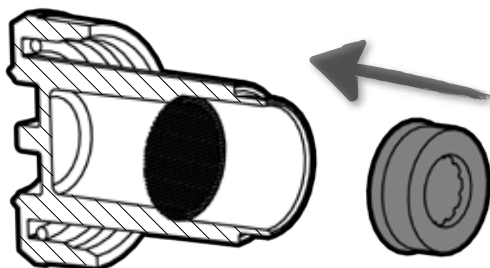

Fig. 34
- 2) Insert the FLOW RESTRICTOR 23 into the FILTER HOUSING 21, ensuring correct alignment and orientation, to push the FILTER MESH 22 down the bore of the FILTER HOUSING 21 to the internal step of the FILTER HOUSING 21 (Fig. 34)